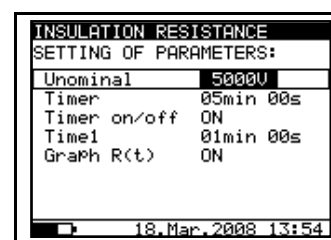

Fig. 13. Set-up menu in Insulation Resistance measurement
- Press the **SELECT** key, the set-up menu will appear on the display, see the **Fig 13**.